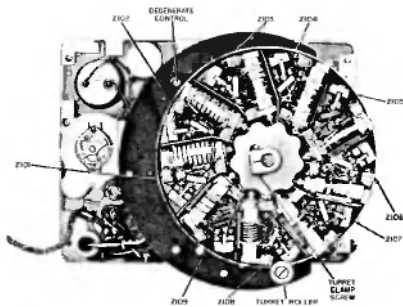

Figure 7-5. Oscillator Coil Tuner
- (1) Remove the signal generator from its case. See paragraph 7.
- (2) Remove the RF shield assembly. See paragraph 7.
- (3) Position the signal generator chassis face down and allow it to rest on the front panel bezel.
- (4) Remove turret clamp screw. (See figure 7-5.)
- (5) Remove turret roller and screw. (See figure 7-5.)
- (6) Lift up turret assembly.
(7) Tighten one set screw in coupling.
(8) Turn frequency knob clockwise 8 divisions.
(9) Loosen set screws in coupling.
(10) Turn frequency knob fully counterclockwise.
(11) Retighten both set screws in coupling.
(12) Continue reassembly in reverse order of removal.
(13) Recalibrate all frequency bands. (See paragraph 15.)
15. READJUSTMENT OF FREQUENCY CALIBRATION. (See figure 7-5.)